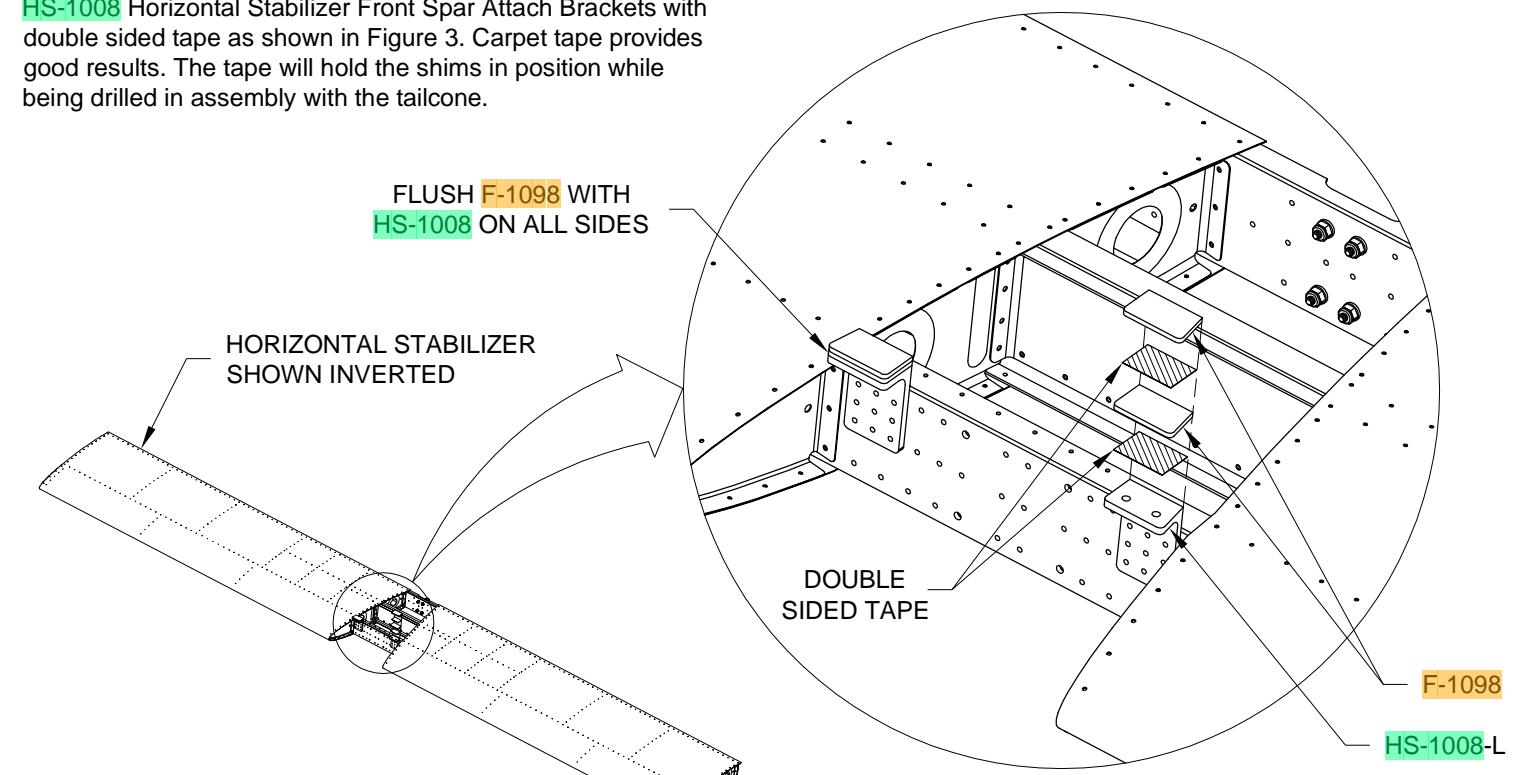

FIGURE 3: ATTACH SHIMS
Step 3: Attach the F-1098 Shims to the underside of the HS-1008 Horizontal Stabilizer Front Spar Attach Brackets with double sided tape as shown in Figure 3. Carpet tape provides good results. The tape will hold the shims in position while being drilled in assembly with the tailcone.